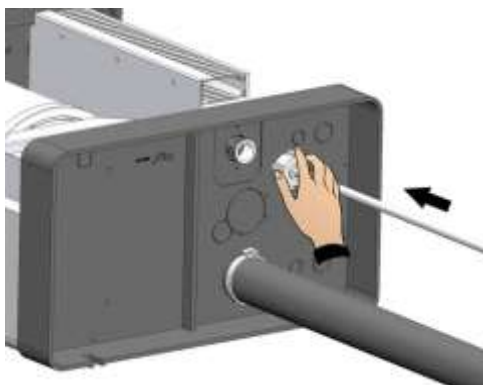

Fig. 11
7. Connect the water charge line to GAS $\frac{3}{4}$ coupling of the electrovalve located under the humidifier (fig. 11 and 12).